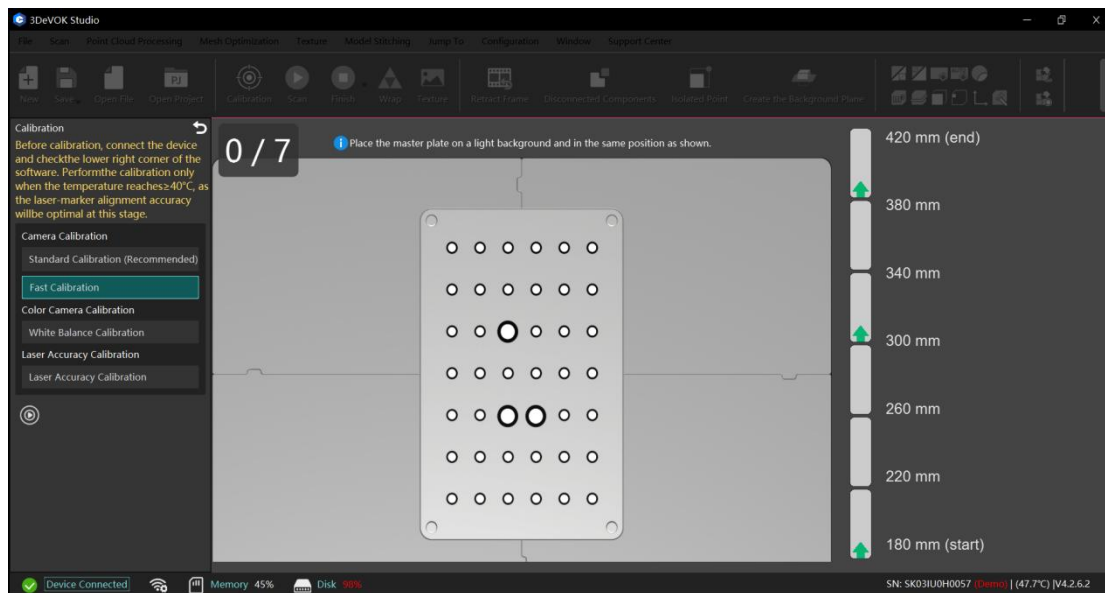

Figure 6-3 Fast Calibration
2. Click  for device calibration, and follow the steps shown in Figure 6-3.